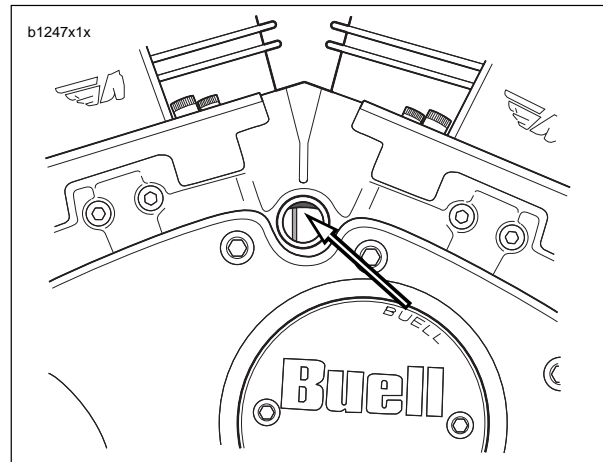

Figure 1-54. Advanced Timing
2. See Figure 1-54. If timing is advanced (mark appears on left side of window) rotate timing plate counterclockwise.